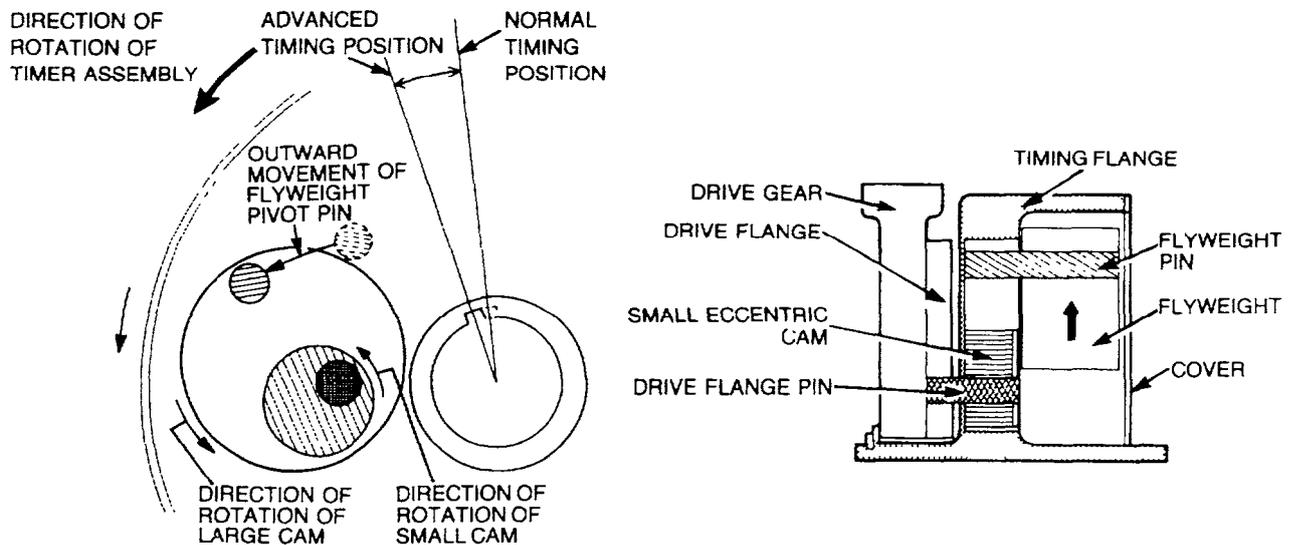

Figure 42 Flyweights in Timing Advance Position
81. When the engine speed is decreased to below that of maximum timing advance, the flyweight return springs overcome the centrifugal force of the flyweights and move the flyweights toward their static position. Both the large and small eccentric cams rotate in the reverse direction, moving the timing flange and fuel injection pump camshaft toward the normal timing mark (refer to Figure 42).